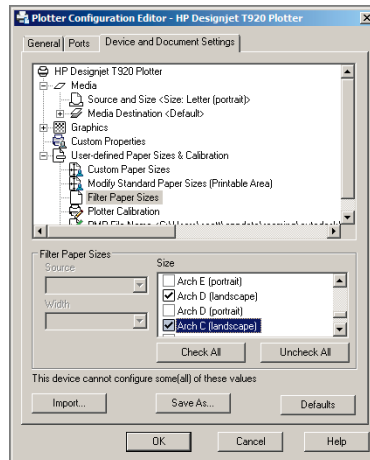

FIGURE 14.2 Filtering out all unused paper sizes
8. Select the Device And Document Settings tab, and then select the Filter Paper Sizes node in the Plotter Configuration Editor dialog box that appears. Click the Uncheck All button. Scroll down the list, and select the following paper sizes: Arch C (landscape) and Arch D (landscape). Figure 14.2 shows the result.